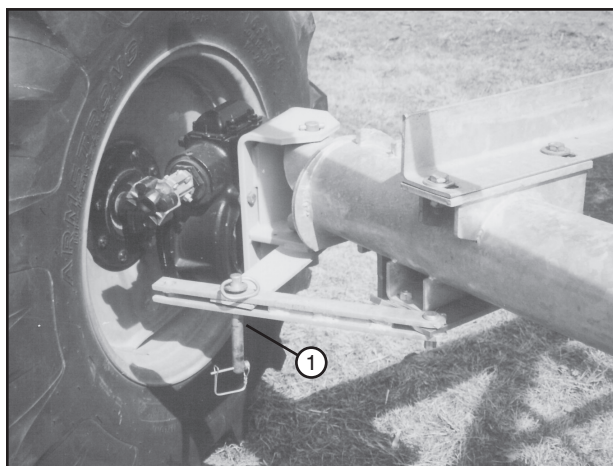

Figure 78-2 1. Swivel Mount Lock
5. Remove a torque pin from the towable gearbox hub, then align the swivel mount link with the hole in the swivel mount tongue and insert the torque pin (be sure to use the middle hole in the link to attain the 60° angle). Repeat steps 3 through 5 on the other wheel/gearbox assemblies. See Figure 78-2.